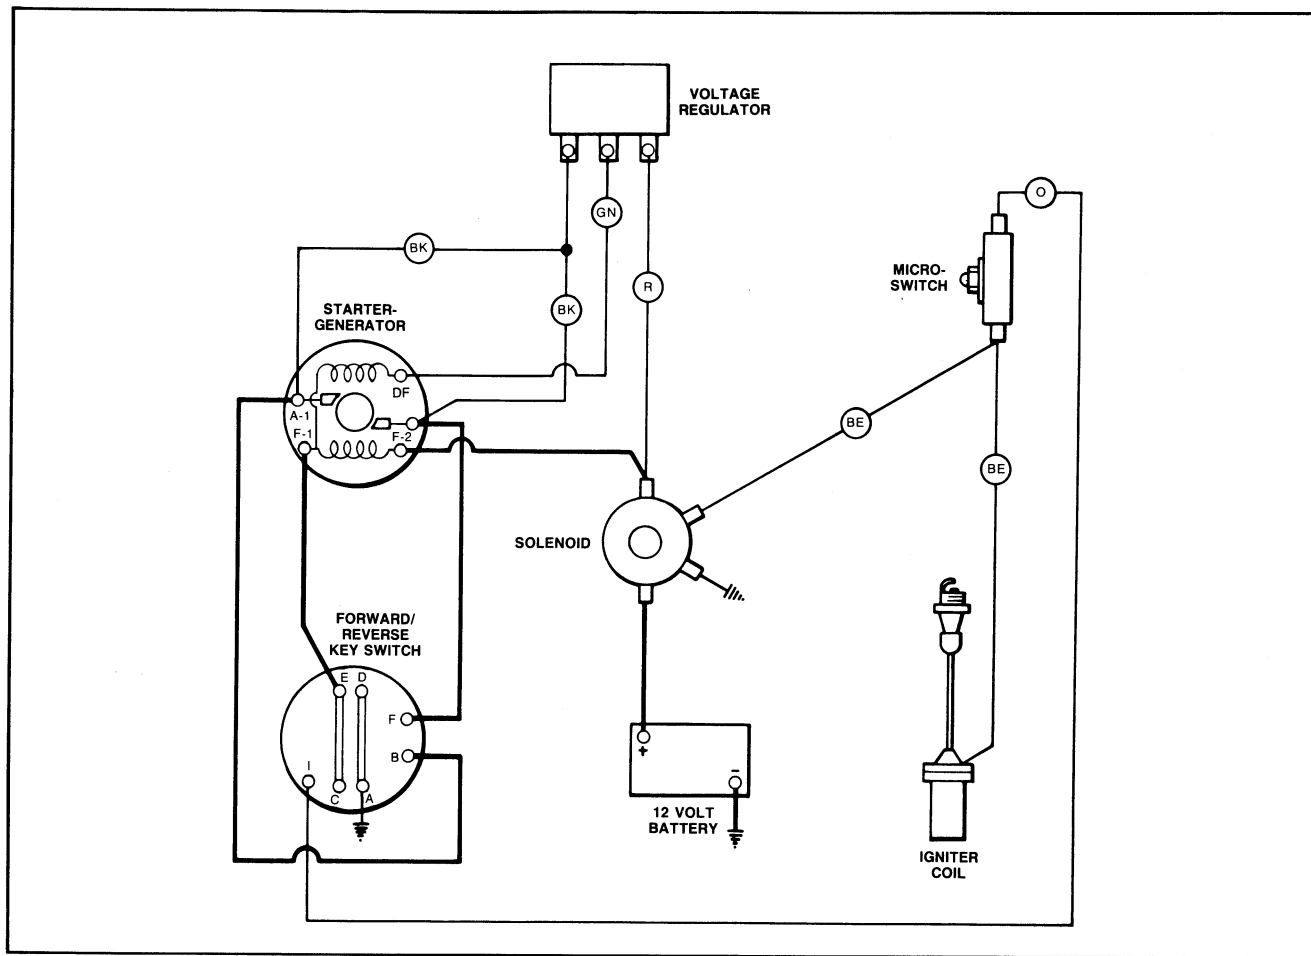

Figure 109 - Wiring Diagram
- b. See wiring diagram, Figure 109. Reconnect the voltage regulator wires as follows: